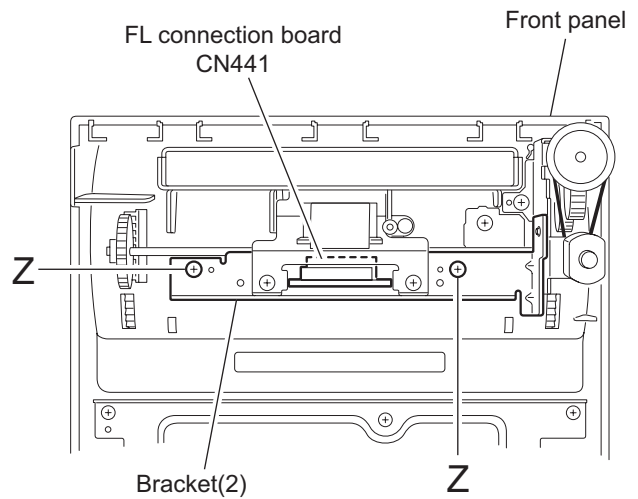

Fig.37
(See Fig.37~39)
2.2.5 Removing the drive motor assembly (See Fig.37,38,40)